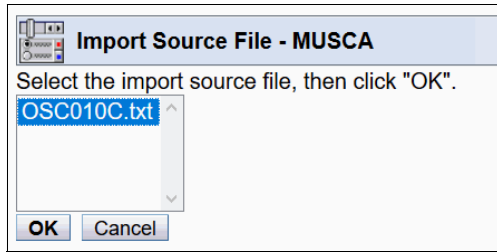

Figure 7-23 Import source file selection
- The Import Source File window opens. Select the name of the source file that you want to import. In our example, we select **OSC010C.txt** as the source file (see Figure 7-23) and click **OK**.